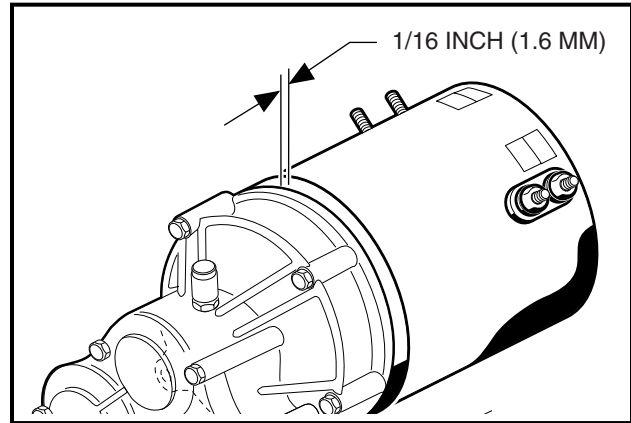

Figure 15-17 Gap at Motor and Transaxle
When the motor is pushed onto the input shaft, the motor adapter ring (1) will not bottom out against the transaxle housing (**Figure 15-10, Page 15-8**). There will be approximately 1/16 inch (1.6 mm) gap between the motor adapter ring and transaxle housing as shown (**Figure 15-17, Page 15-13**).